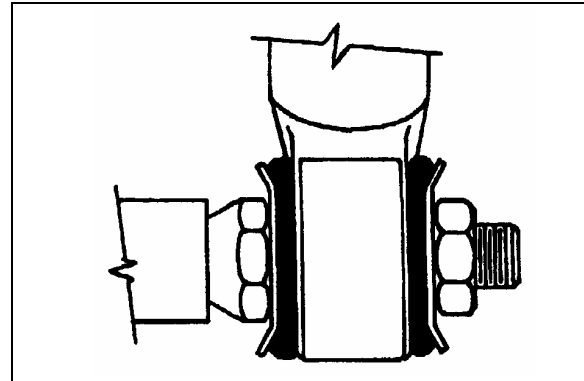

FIGURE 33: TYPICAL SHOCK ABSORBER SETUP
- Place the inner washers (with washer convex side facing the shock absorber rubber bushing) on each shock absorber pin (Fig. 33).